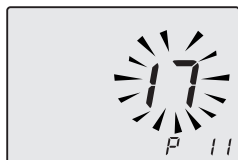

Fig. 8.16
- Scroll the various parameters using keys 18 or 19 until the letters **P11** are displayed on the LCD display, indicating that "parameter 11" (Fig. 8.16) has been activated.